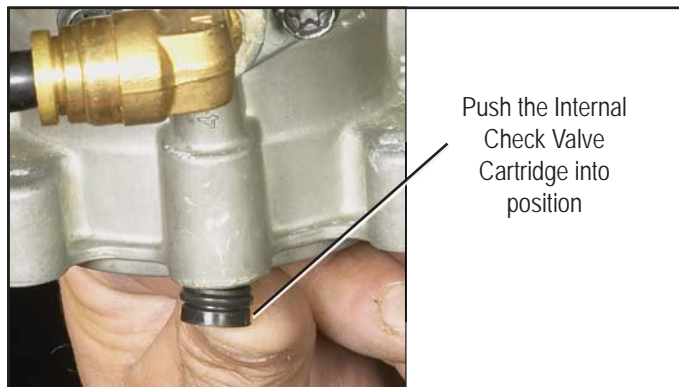
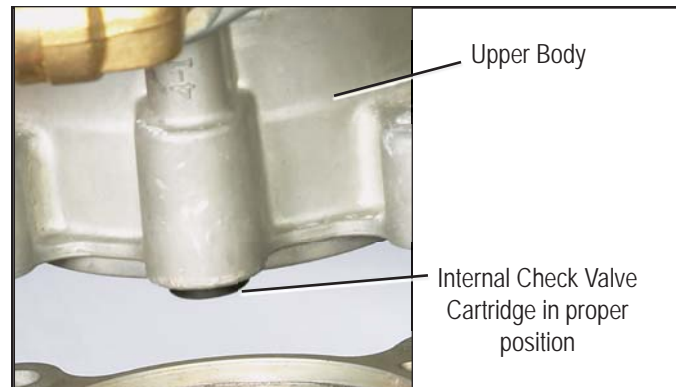

Figure 7 - *CARTRIDGE INSTALLATION*
Figure 8 - *PROPER CARTRIDGE INSTALLATION*
1. Insert the replacement cartridge in the bore where the check valve, spring and plastic guide were removed. Note: Be sure to remove the replacement cartridge from its shipping tube prior to installation. Push the cartridge into position until it stops as shown in Figure 7. A portion of the plastic guide in the cartridge will stick out as shown in Figure 8. **DO NOT FORCE THE CARTRIDGE FURTHER INTO THE BORE.**